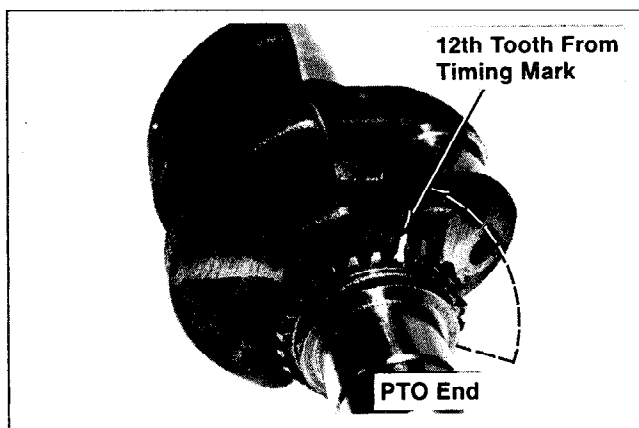

Figure 12-25. Marking Tooth On Crankshaft Gear.
Crankshaft – Locate the primary timing mark on crankshaft. While looking at the PTO end of crankshaft, start with the tooth directly below timing mark and count **twelve (12)** teeth in a **counterclockwise** direction. Mark the twelfth tooth. Refer to Figure 12-25.